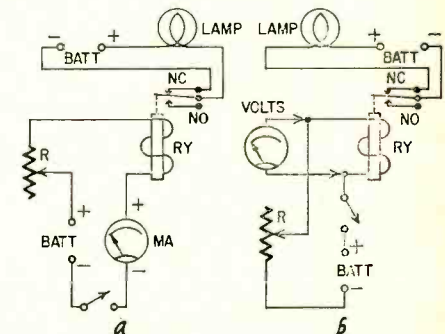

Fig. 3—Test circuits for dc relays: a—ammeter method; b—voltmeter method.
Relays, both old and new, should be tested for the pull-in and dropout points. To do this use either of the two methods shown in Fig. 3. In dc relays the current is proportional to the voltage since coil resistance is fixed. Hence, wattage is often specified for pull-in and dropout (stage 2 current in operate and release cycles). Either method can be used to test the relay in its circuit (ammeter in series or voltmeter in shunt). For accuracy, use an ammeter whose resistance is less than 5% of the
The battery used in Fig. 3 should have more than twice the anticipated pull-in voltage. The rheostat (R) drops battery voltage to coil voltage—use about double the coil resistance for R . Finally, equip the working circuit with some sort of visual indicator like the lamp and battery shown or an ohmmeter to indicate relay action, either pull-in or dropout.
Spring tension can be adjusted to supplement this action when making range adjustments. A test as indicated in Fig. 3 or in the operating circuit should always be made to define the operating points.